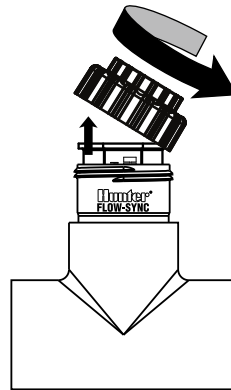

Figure 1
2. Unscrew the cap from the top of the FCT (figure 1).